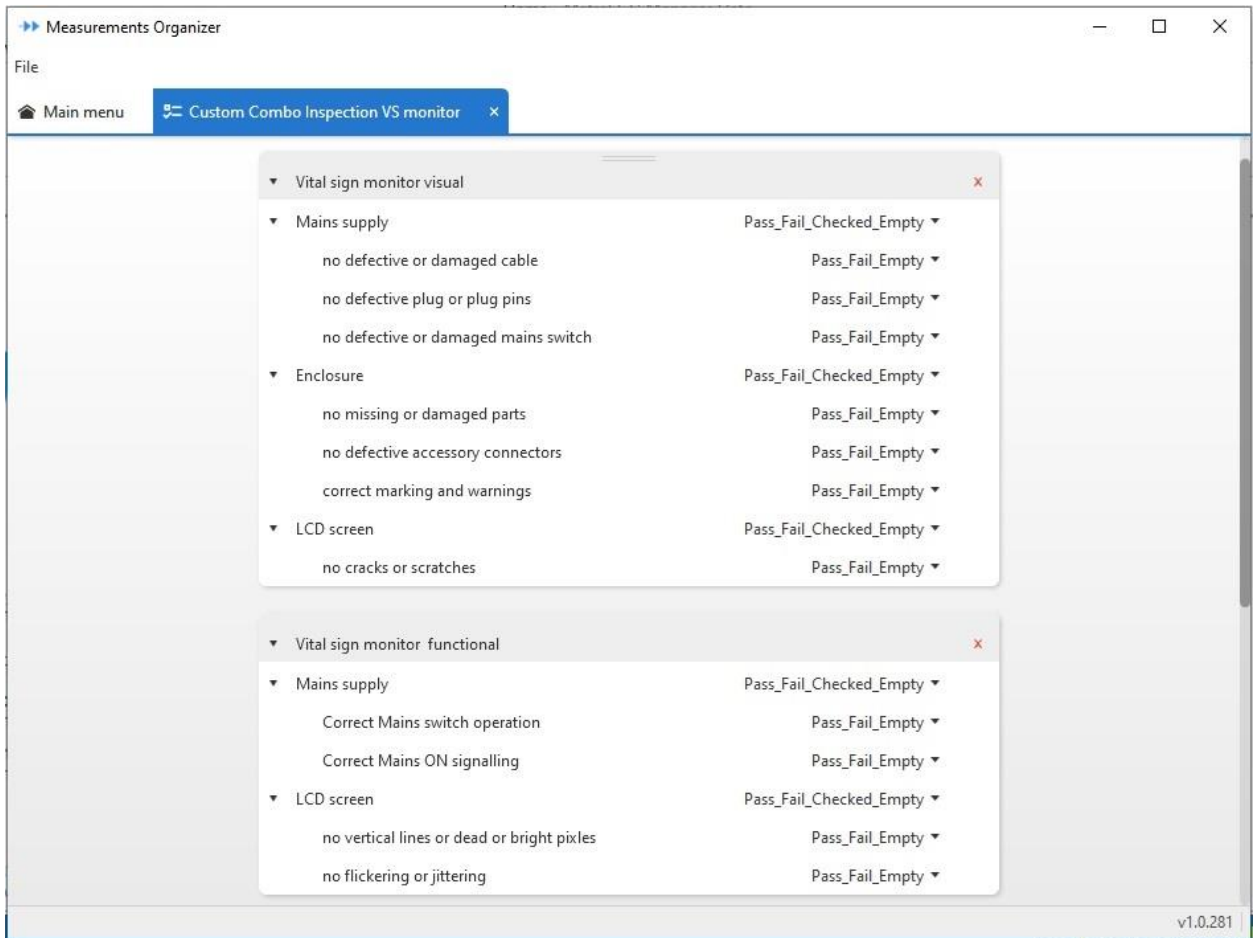

Figure 10.14: Custom Inspection file with multiple Inspections Editor Workspace
-  **Add Inspection:** click to add an inspection. Custom created inspection file can contain multiple inspections. See **Figure 10.14**. for an example.